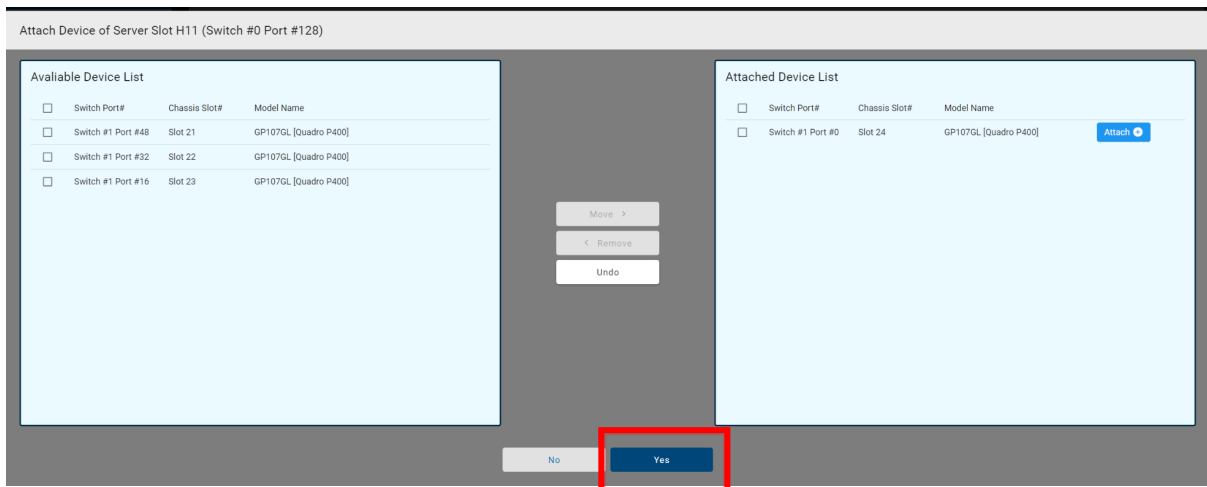

Figure 71. Confirming GPU Assignment by Clicking "Yes"
- F. Confirm the selection by clicking Yes to complete the GPU assignment (refer to Figure 71).